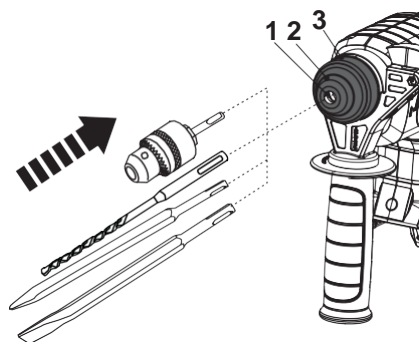

Fig. 3
2. Insert the SDS-plus drill bit / chisel with a twist motion all the way to the stop into the drill chuck (1) and find the engaged position (Fig. 3).